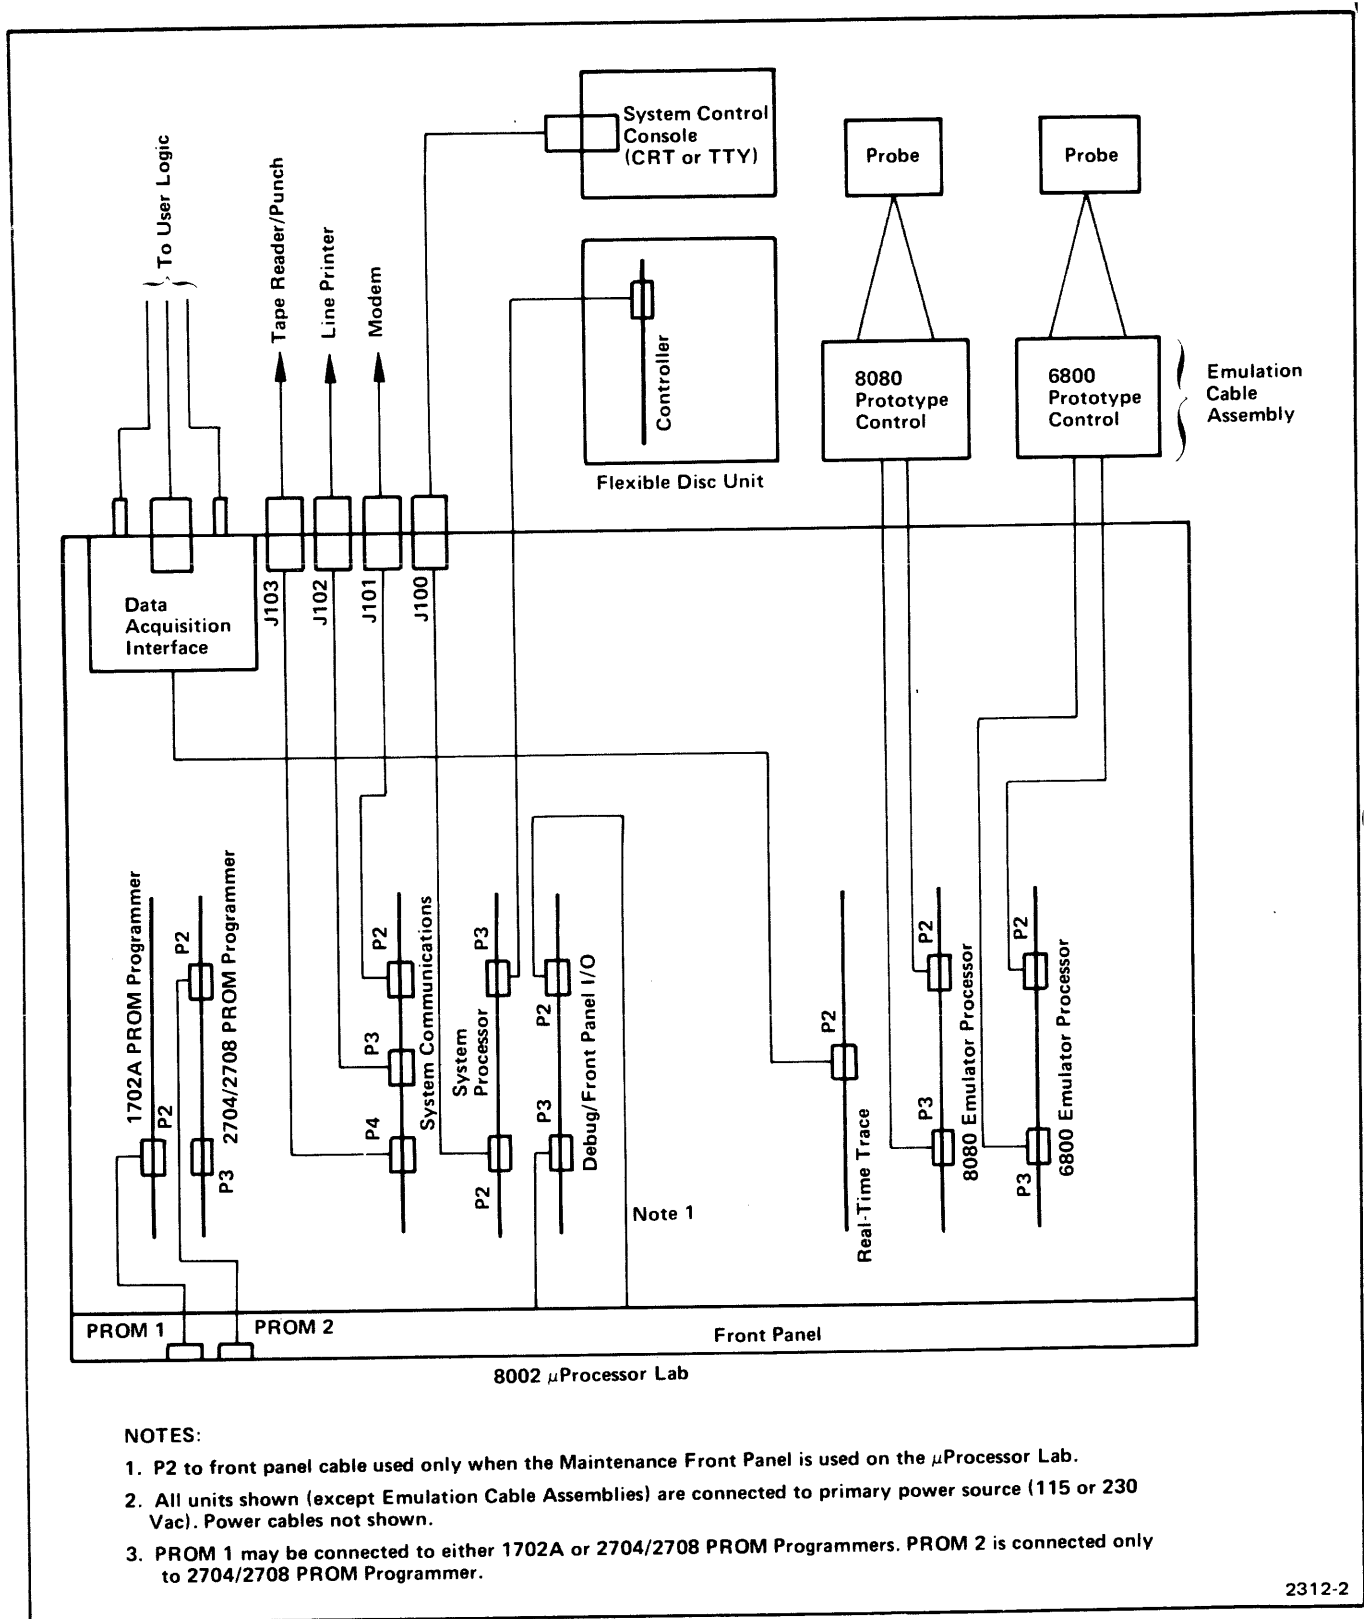

Fig. 11-1. 8001/8002 μProcessor Lab System Interconnect Diagram.
Two Prototype Control Probe cables are attached to the top edge connectors P2 and P3 of the Emulator module as shown in Fig. 11-1. Care should be taken that pin 1 of the cable (red strip) and pin 1 of the edge connector align. Pin 1 is to the left when viewed from the component side of the module. Press firmly on the cable connectors to seat them properly into their board edge connector. Before removing the module, make sure that the primary power to the μ Processor Lab is OFF. Grasp the module ejectors (small white plastic handles on each upper corner of the module) and pull upward. The ejectors will lift the module free of the motherboard.
- 7) Mount the Emulator Processor module in the μ Processor Lab. The emulation cable assemblies that enter the center and right cableways (from a front panel view) on the backpanel of the μ Processor Lab, must be correctly installed in the cable clamps as illustrated in Fig. 11-1. Make sure the bared ground plane of each cable makes good contact with the cable clamps to ensure proper grounding.